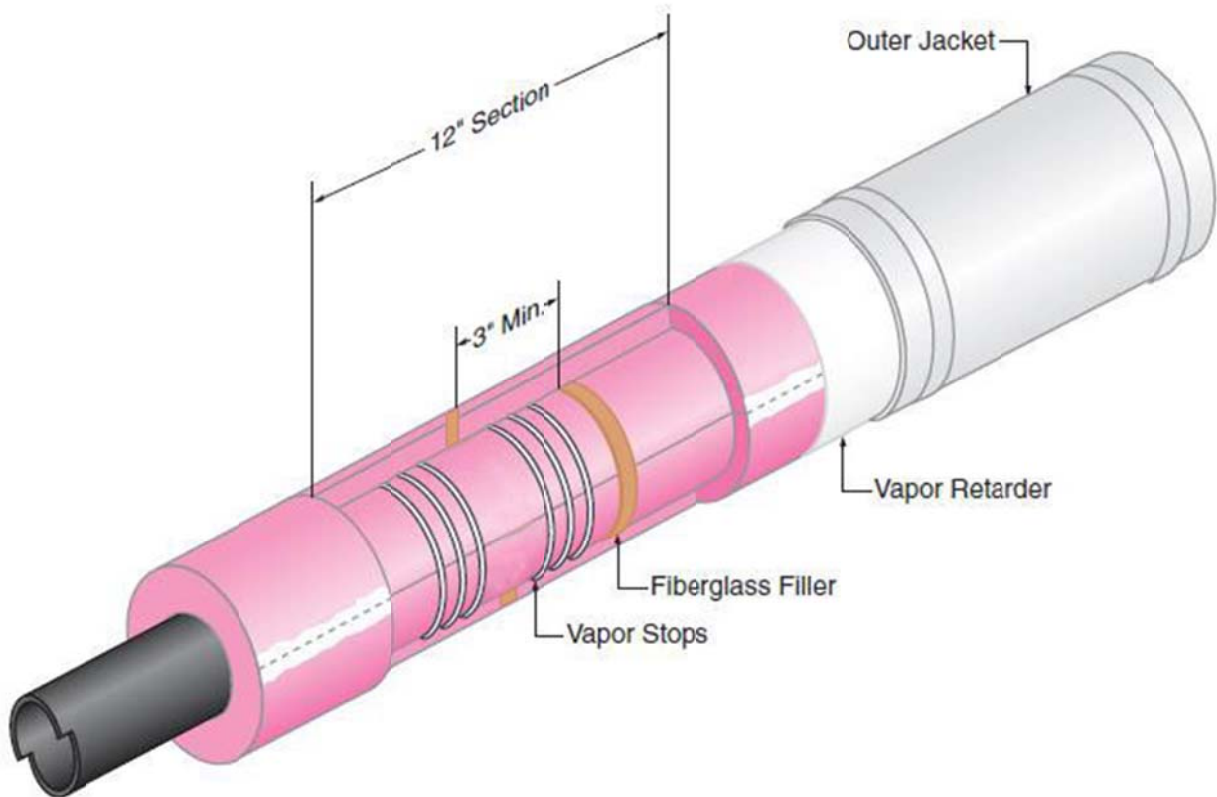

**Figure 8**
3. Install an 18" length half round pipe section on bottom of all pipe hanger saddles with a full half round pipe section on the top to maintain a staggered joint through the pipe hanger saddle. (Figure 8, Appendix A)